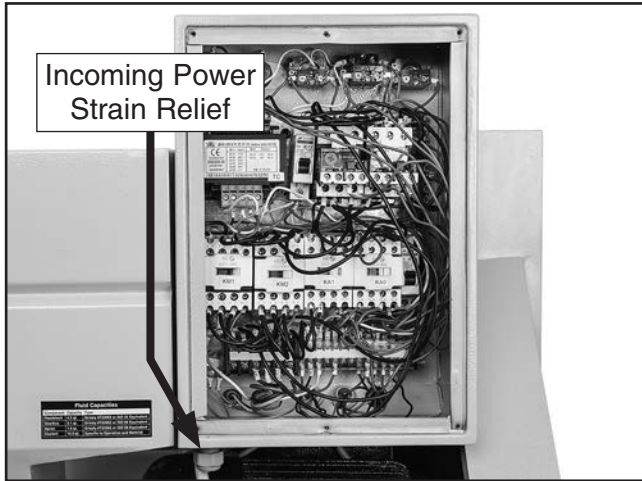

Figure 16. Location of hot wire terminals, ground terminal and strain relief.
2. Thread power cord through strain relief shown in **Figure 16**.